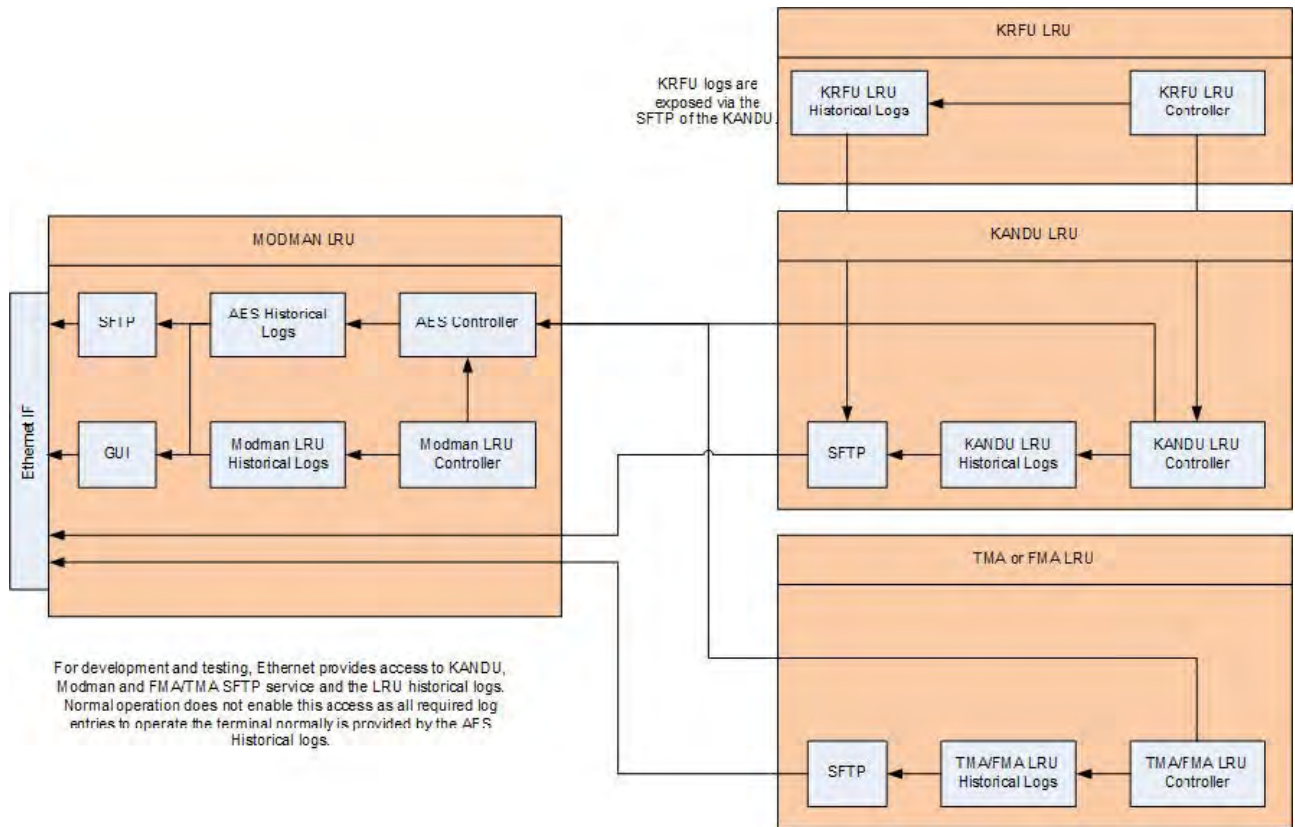

**Figure 3-22. Bite Hierarchy**
- (c) The BITE system divides the responsibility for BITE and historical logs in a BITE hierarchy as illustrated in Figure 3-22.